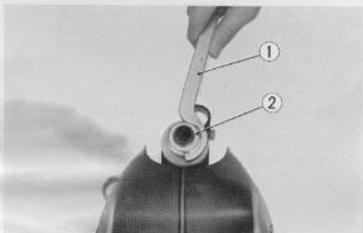

Fig. 4.21 Removing steering head top thread
① Front fork
4. Remove the steering head top thread ② using a 36 mm hook spanner ① (tool No. 07072~00101) and pull the steering stem out the bottom. (Fig. 4.21)